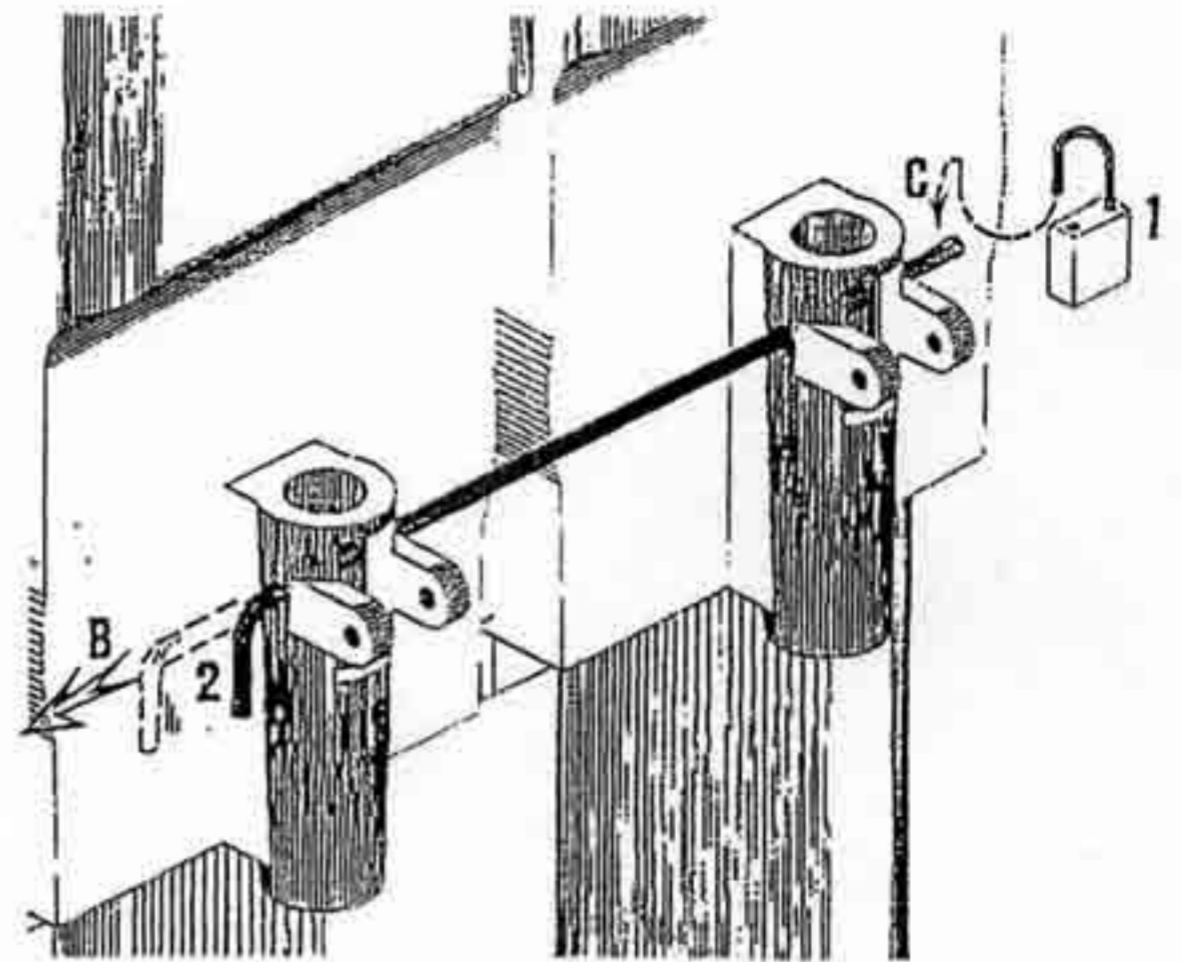

Figure 9
1. The machines come from factory with a handle locking system (fig 9) (locker (1) not included).